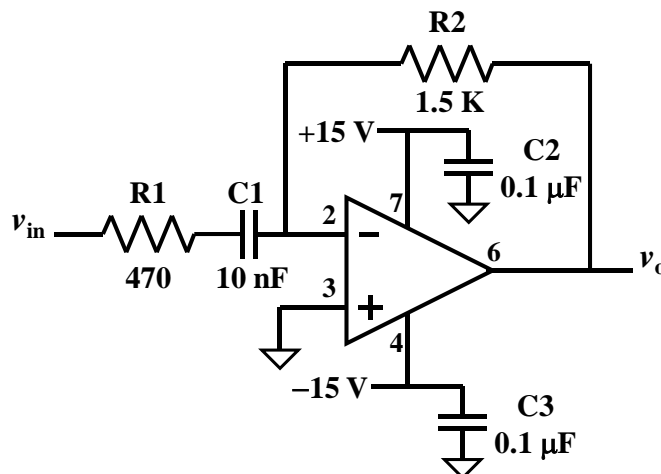

Fig. 4. Practical differentiator circuit for procedure step 2.
2. In the first part of this procedure you will observe the inverting differentiator's response to different types of input waveforms. In the second part you will see how it responds as a sine wave input's amplitude and frequency are changed. Construct the practical inverting differentiator circuit in Fig. 4 as follows.